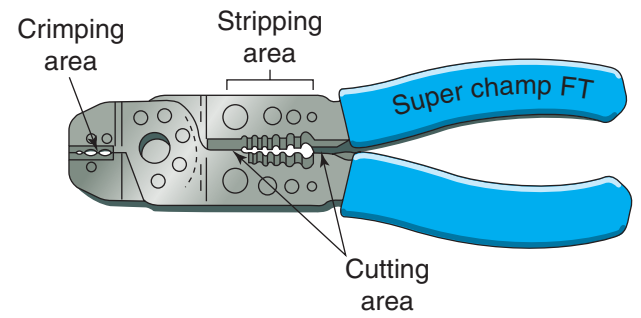

Figure 14-38 Wire stripper/crimping pliers.
- Wire stripper/crimping pliers (Figure 14-38)